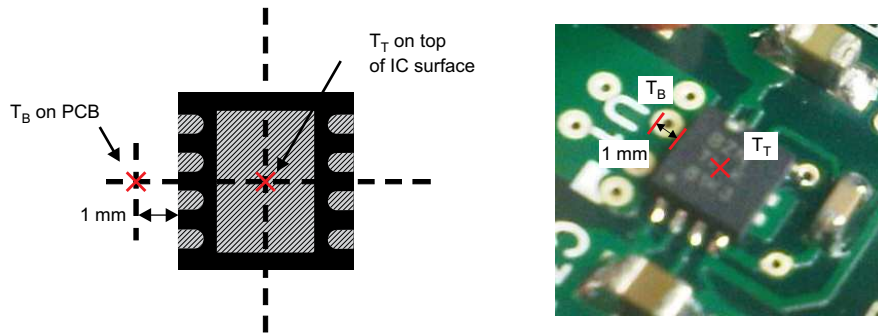

Figure 46. Measuring Points for T_T and T_B
- T_B is the PCB temperature measured 1-mm away from the IC package on the PCB surface as shown in Figure 46 (6)